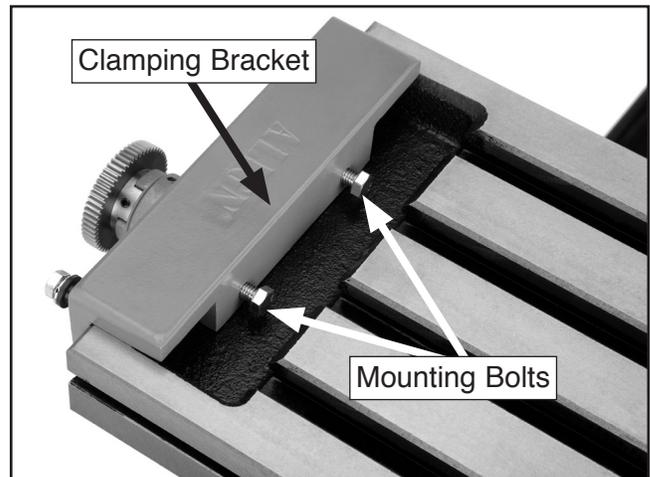

Figure 11. Clamping bracket assembly.
2. Set the clamping bracket assembly on the left end of the table. Mark the points on the table trough where the mounting bolts contact the table. Remove the clamping bracket assembly and spot drill to give the mounting bolts a small lip to “bite” without slipping on the rough cast surface. Set the clamping bracket assembly back on the end of the table and tighten down the mounting bolts (**Figure 11**).